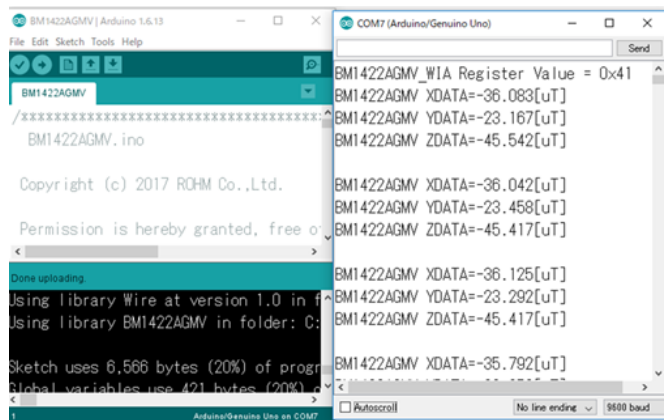

Figure 7. Serial Monitor
5. Check log of Serial Monitor (Figure 7)